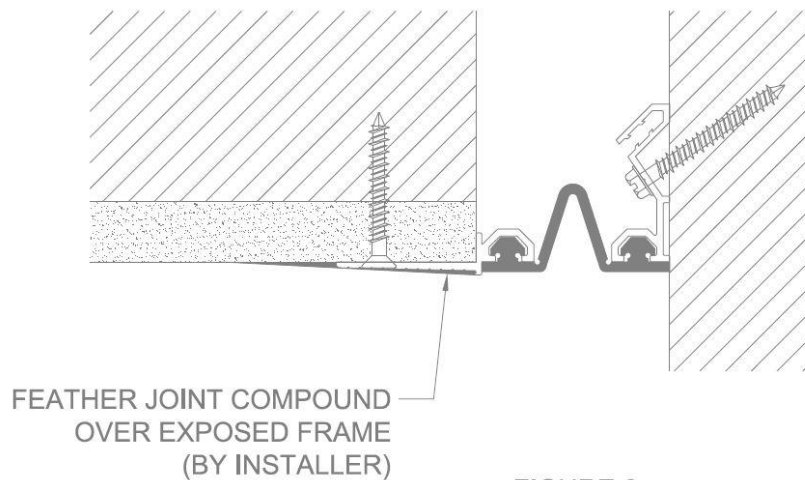

FIGURE 6
3. Protect the elastomeric seal with tape and feather joint compound (by others) over the exposed aluminum frames and onto the gypsum wallboard. Remove tape after wall or ceiling has been finished. **See Figure 6.**